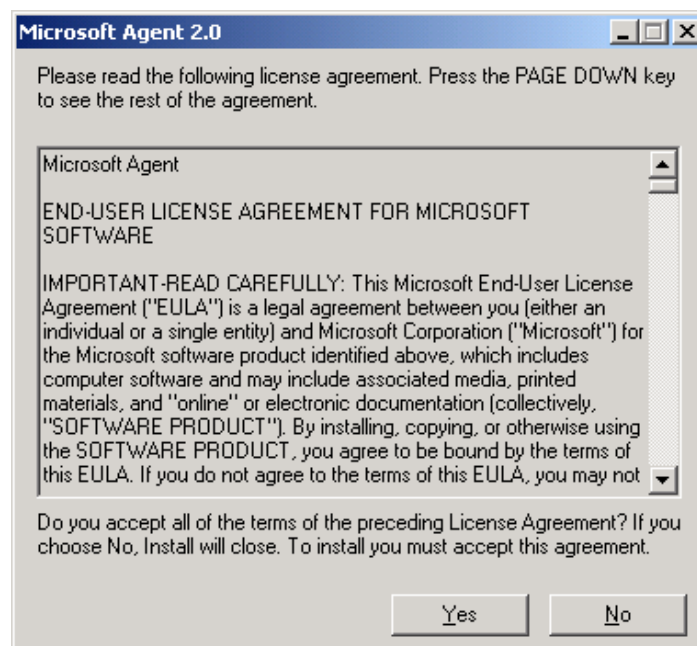

Figure 1.7. Microsoft Agent License Agreement
- The **Microsoft Agent License Agreement** appears, as shown in **Figure 1.7**. Read the agreement carefully. If you agree with the terms and conditions, click the **Yes** button to continue.